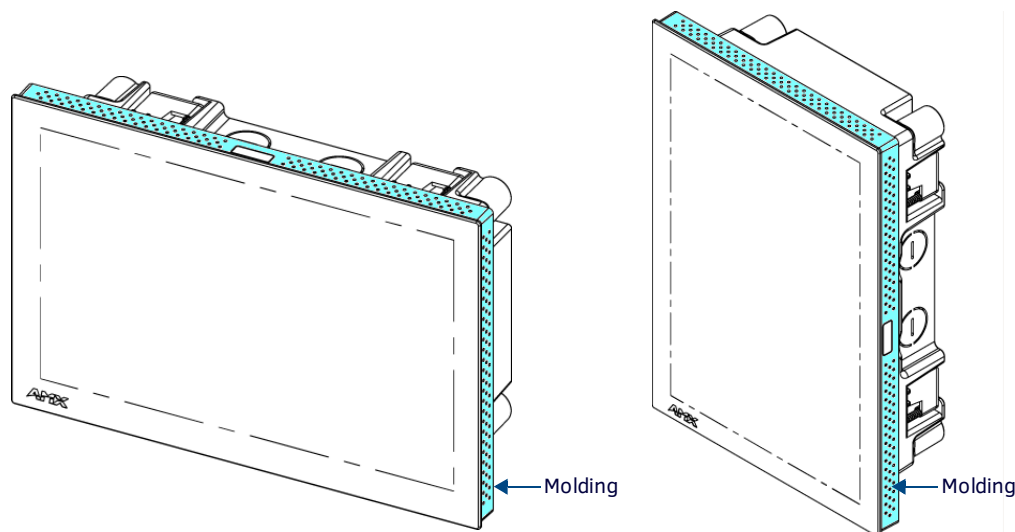

FIG. 48 MXD-1000 Molding (highlighted in blue)
1. The MXD-1000 has three rows of ventilation holes along the molding (FIG. 48):
- The MXD-700 has three rows of ventilation holes along the molding (FIG. 48):
1. The MXD-430 has three rows of ventilation holes along the molding (FIG. 48):